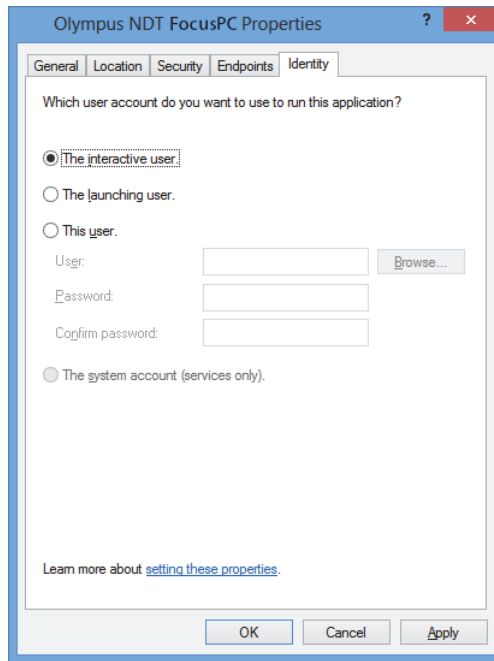

Figure 2-22 The Identity tab in the Evident NDT FocusPC Properties dialog box
- c) Click the **Identity** tab (see Figure 2-22 on page 47).